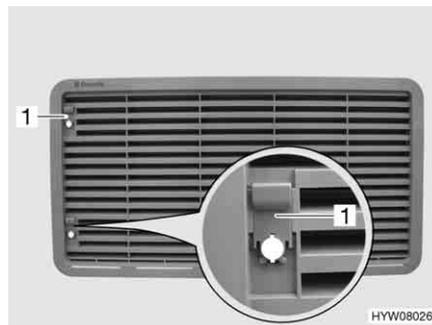

Fig. 148 Refrigerator ventilation grill (with sliding trap)
- Push sliding trap (Fig. 148,1) upward.